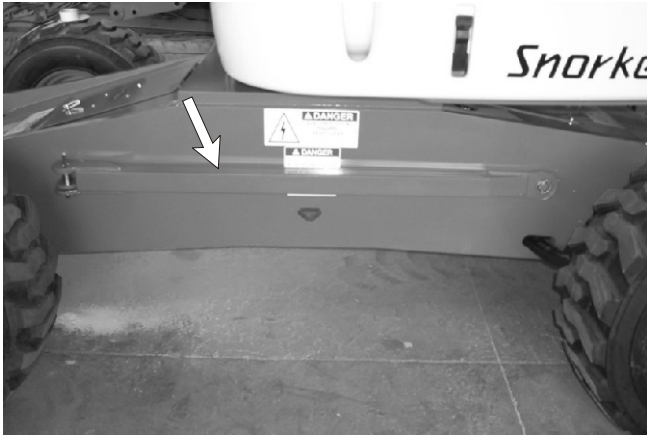

Figure 11.5—Towbar Storage Cradle
1. With the machine in the stowed position, remove the tow bar from the storage cradle and lay it in front of the chassis (see Figure 11.5).